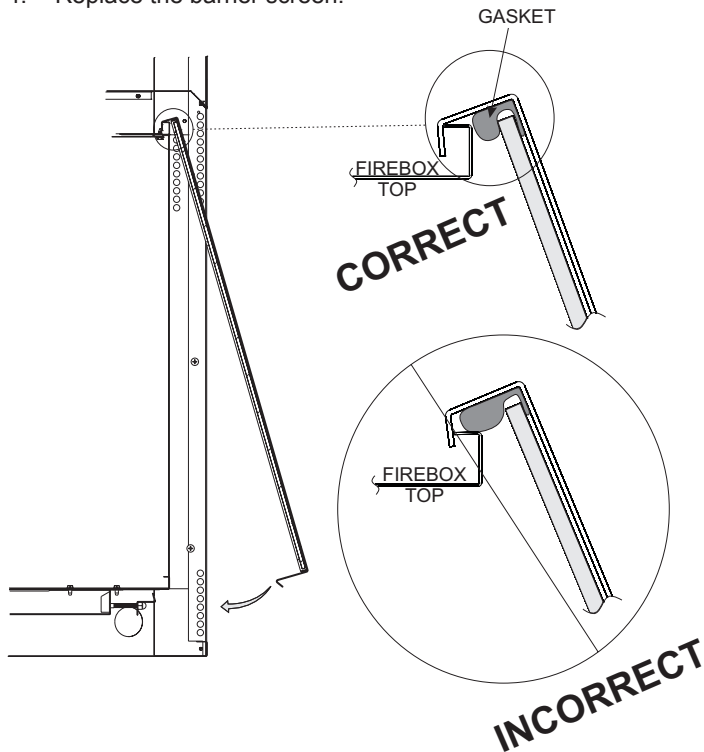

Figure 75
1. When installing the Glass Door assembly, make sure that the door top flange is hooked over the firebox top flange as illustrated in the "Correct" view in **Figure 75**.
Important: Do not allow the gasket across the top of the door to roll up on top of the firebox flange as shown in "Incorrect" view in Figure 75.